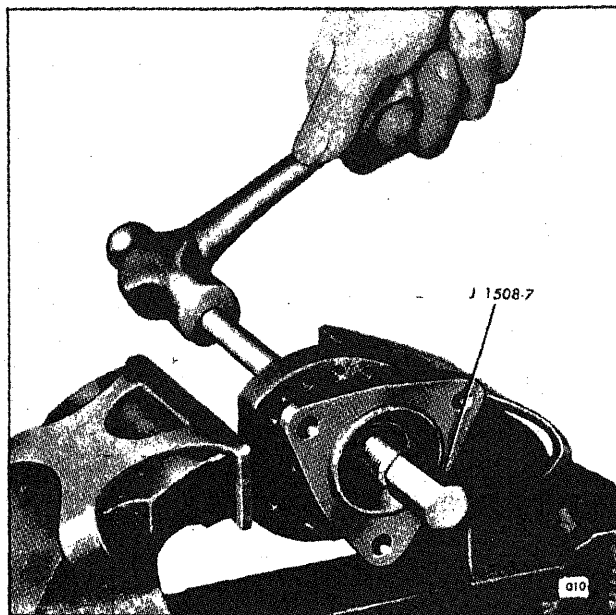

Fig. 4 - Removing Oil Seals
7. If the oil seals need replacing, remove them with tool J 1508-7, as shown in Fig. 4, by clamping the pump body in a bench vise and screwing the threaded end of the tool shaft into the outer oil seal (seal nearest to the bolting flange). Then tap the pilot end of the shaft with a hammer to remove the seal. Repeat this operation to remove the inner oil seal.